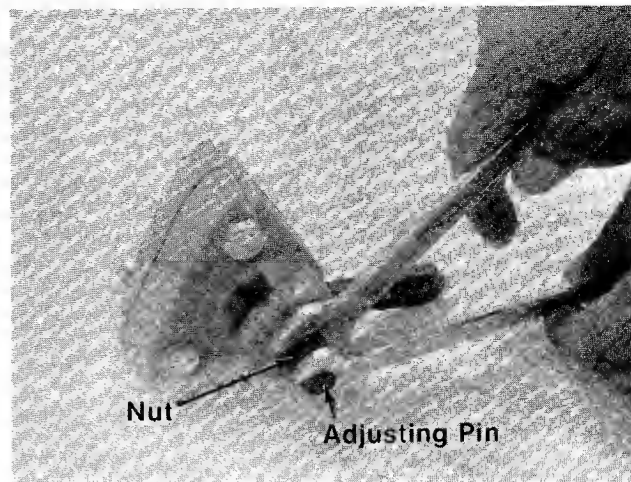

FIGURE 24.
- A. Loosen the nut on the disc brake. See figure 24.